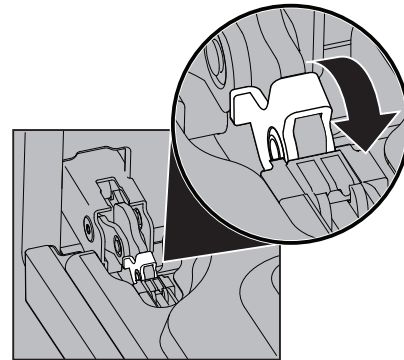

Figure 15: Door hinge lock
2. Pull up the lock located on each hinge support toward front of the oven until the lock stops. You may have to apply a little upward pressure on the lock to pull it up (Figure 15).
4. Push the door hinge locks up toward and into the oven frame on both left and right oven door hinges to the locked position (Figure 15).